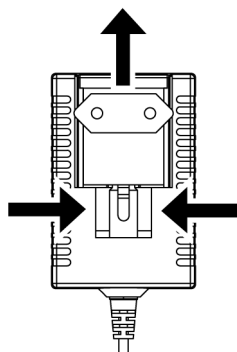

Fig. 7 PS4: Changing the AC line plug adapter
- Slide a different AC line plug adapter into the slot (see Fig. 7).